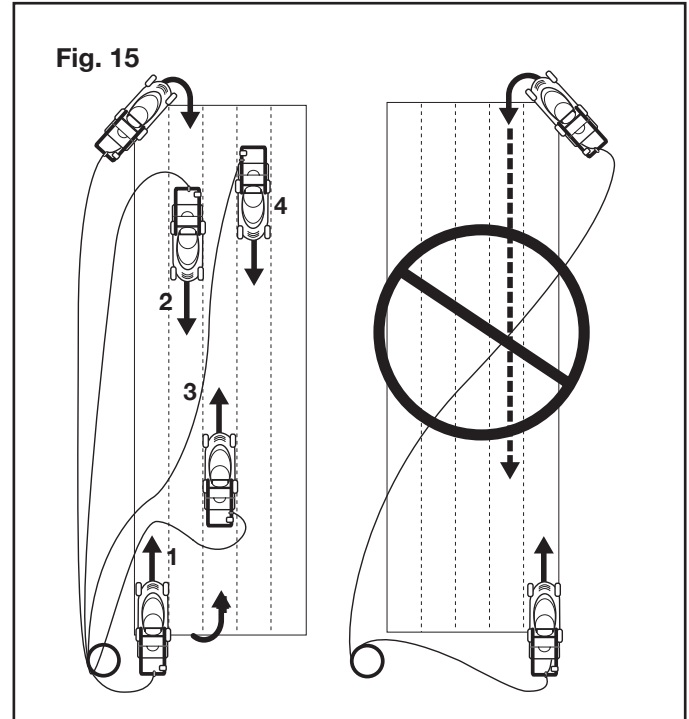

Fig. 15
- A. Proceed to cut as shown in Fig. 15, working from position 1 towards position 2.
- D. Proceed as shown in Fig. 15, always working away from the electric extension cord.